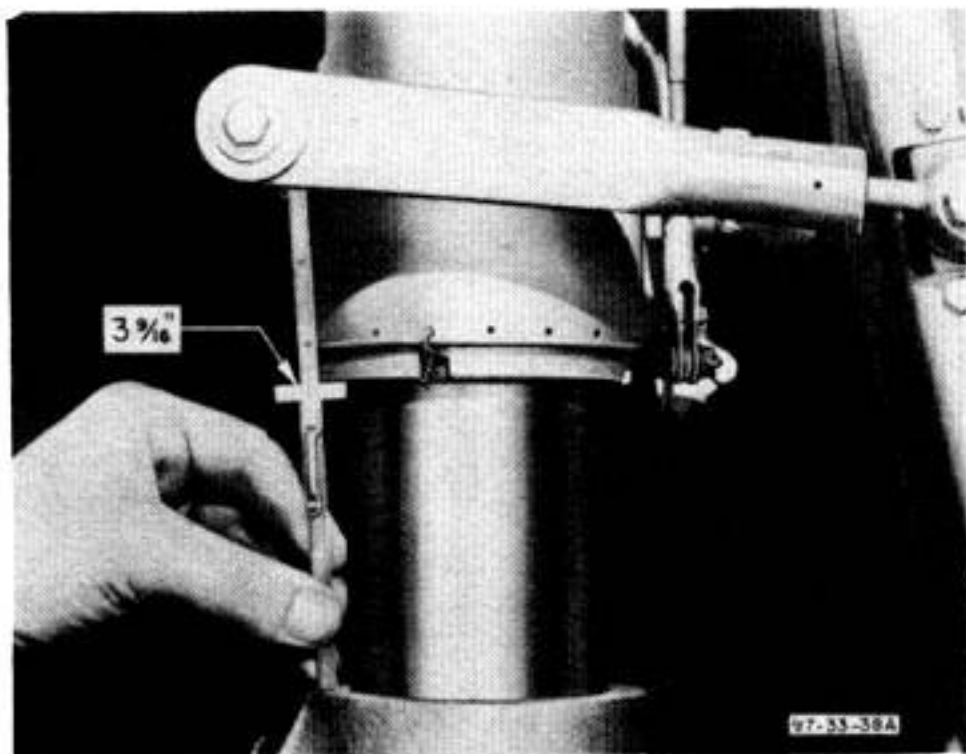

Figure 127—Inspecting Main Gear Shock Strut for Correct Inflation
1. Inflate the strut until $3\frac{3}{8}$ inches of polished piston are visible between the packing nut and the shock strut piston shoulder. (See *figure 127.*)